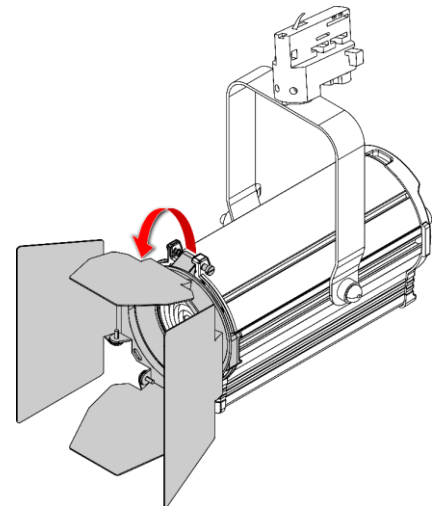

Fig. 15
- 03) Pull the **color frame clip (08)** downwards to release the **spring-loaded screw (09)** (see Fig. 15). The barndoor will be locked in position.